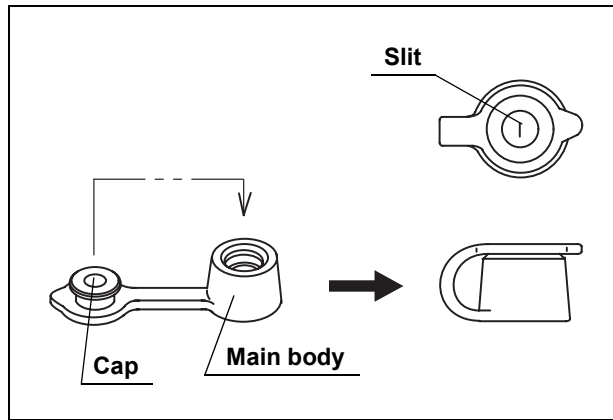

Figure 3.11
2. Attach the cap to the main body (see Figure 3.11).